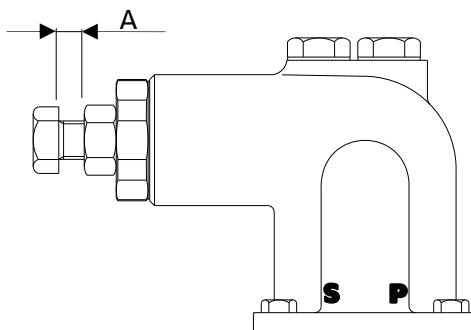

Figure 27: The setting value "A" for ROTAN valves.
5. Measure the valve's setting value as shown in Figure 27.